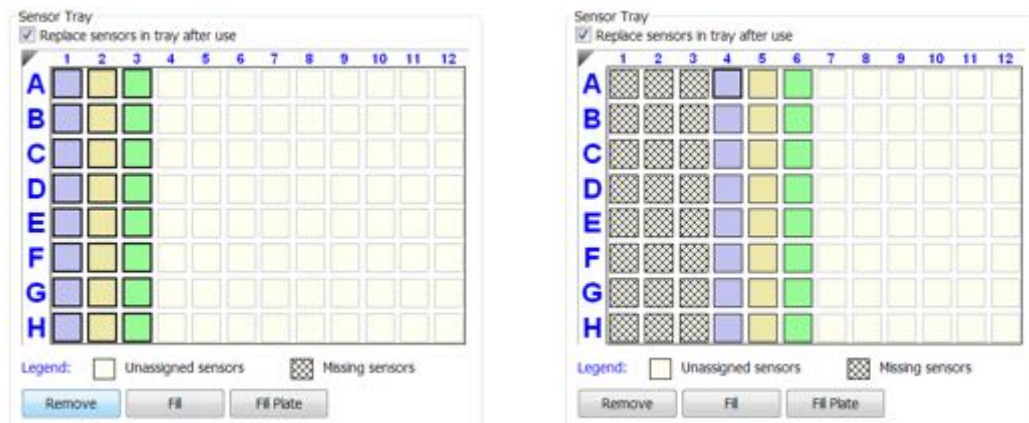

Figure 9-46: Changing Biosensor Location (Method 1)
1. In the **Sensor Tray Map** (see Figure 9-46), select the columns to not use and click **Remove**. Or, right-click the selection and select **Remove** (Figure 9-46 left). The software automatically selects the next available biosensor columns in the tray (Figure 9-46 right).